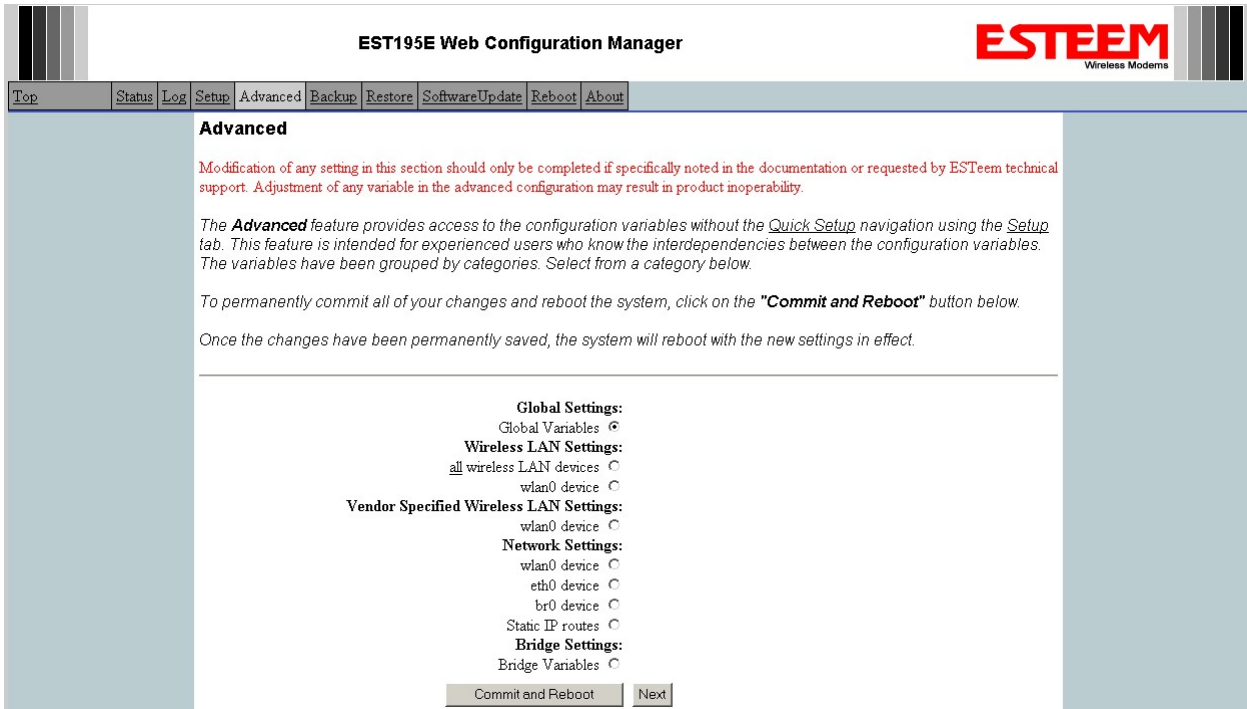

Figure 13: Advanced Settings Menu
7. To complete the configuration, select “Commit and Reboot.” The ESTeem 195C/M will now commit the configuration changes and reboot. (Figure 13)